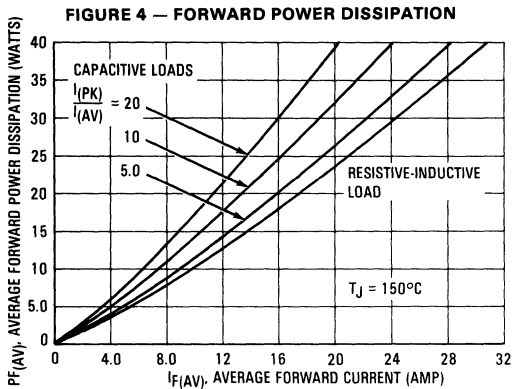

FIGURE 3 — THERMAL RESPONSE, CHASSIS MOUNTED
- $r(t)$  = normalized value of transient thermal resistance at time,  $t$ , from Figure 3, i.e.: